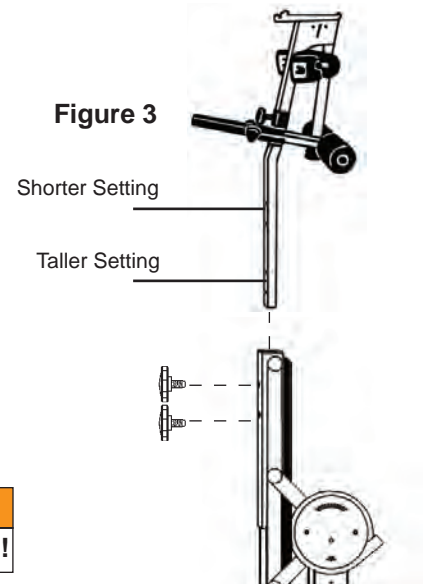

Figure 3
- Insert the Main Shaft with Gravity Lock into the Bed Frame Assembly. (See Figure 3) Line up the holes on the back of the Bed with those in the Main Shaft with Gravity Lock. **NOTE: There are two height settings on the main shaft, but they do not need to be set for every patient. Use them as a guide and adjust for extremely tall or short patients.**